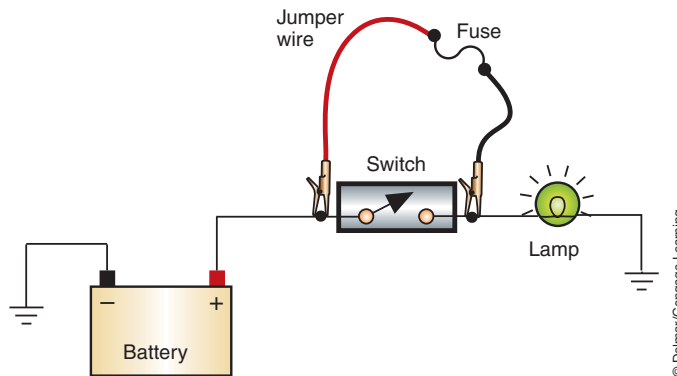

FIGURE 3-19 Using a fused jumper wire to bypass the switch.
The easiest method of testing a **normally open (NO)** switch is to use a fused jumper wire to bypass the switch (Figure 3-19). An NO switch will not allow current flow when it is in its rest position. The contacts are open until they are acted on by an outside force that closes to complete the circuit. If the circuit operates with the switch bypassed, the switch is defective. Voltage drop across switches should also be checked. Ideally, when the switch is closed, there should be no voltage drop. Any voltage drop indicates resistance, and the switch should be replaced.